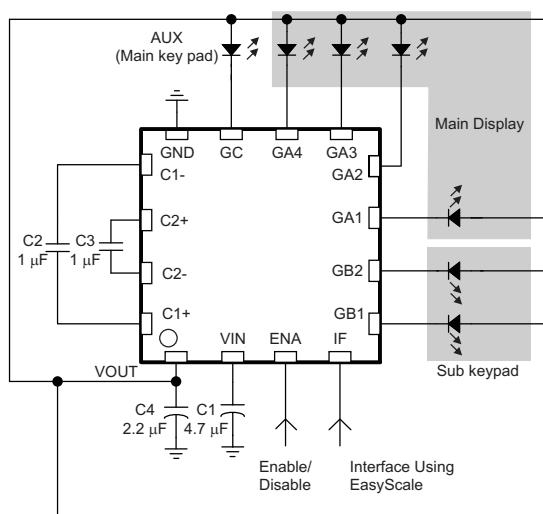

Figure 18. Application Circuit—Slide Mobile Phone Design
- **Slide (Figure 18)**—application circuit for driving four LEDs for LCD display backlight and LEDs for both sub- and main keypad backlight.